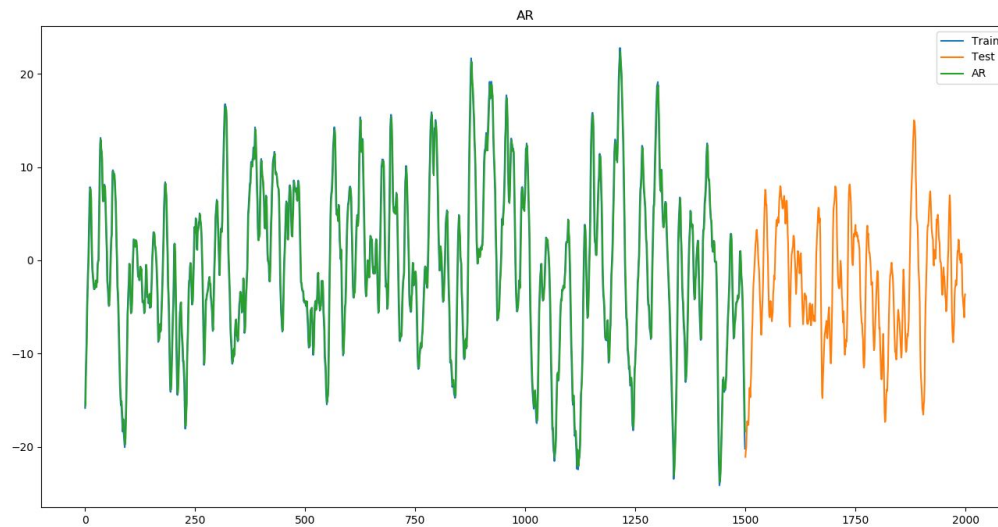

Figure 7. AR(1) fit on training data
We can see from the Figure 7 above that the AR model fits the data quite well. If we try and increase our value of then the fit starts to worsen. Also we can see from the residual analysis below that the qq plot is proper when AR(1) is used.